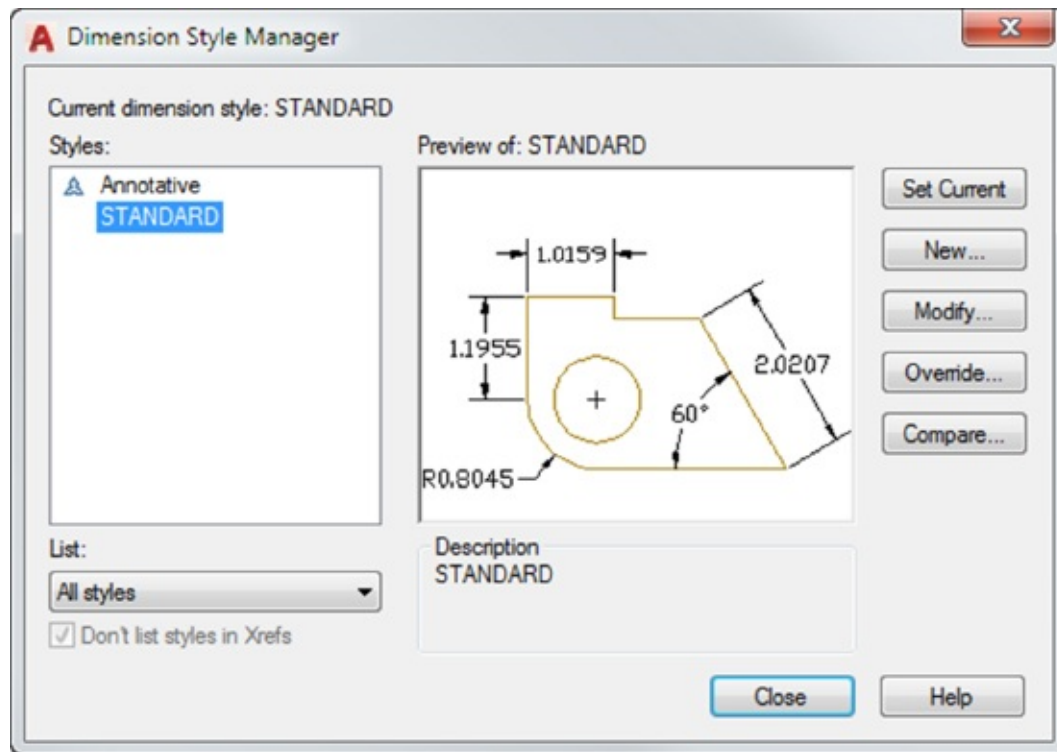

FIGURE 11.3 The Dimension Style Manager
4. Select Standard from the Styles list box. Metric users should select ISO-25 (see Figure 11.3).